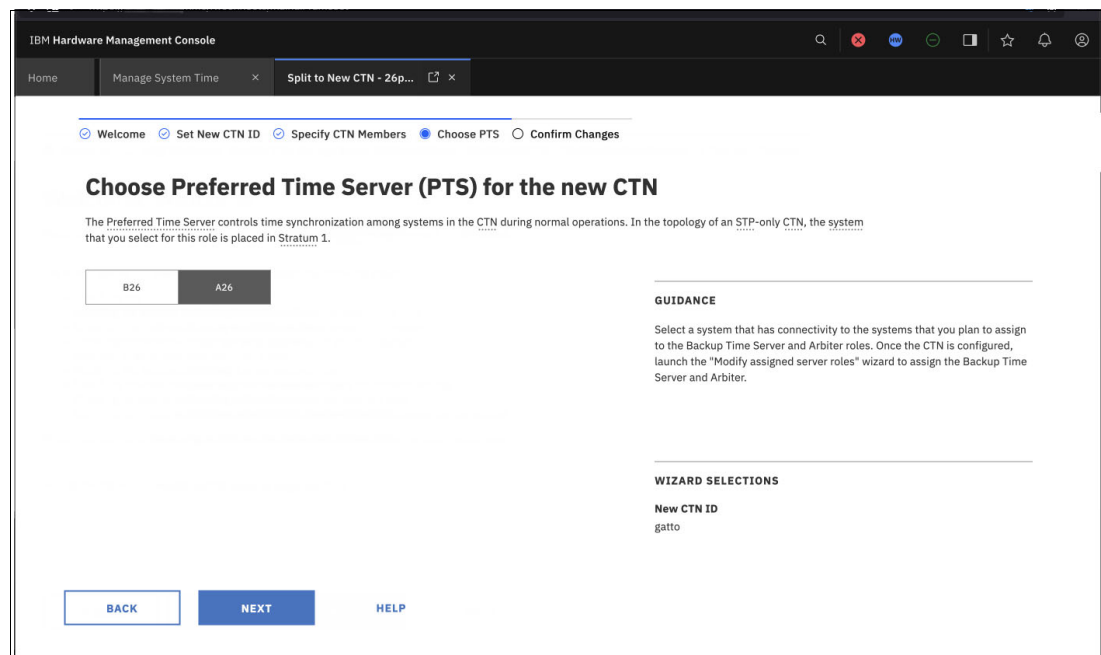

Figure 5-11 Assigning the PTS role
7. Select the Preferred Time Server for the new CTN, as shown in Figure 5-11. Other assigned roles are optional and can be changed later as needed.